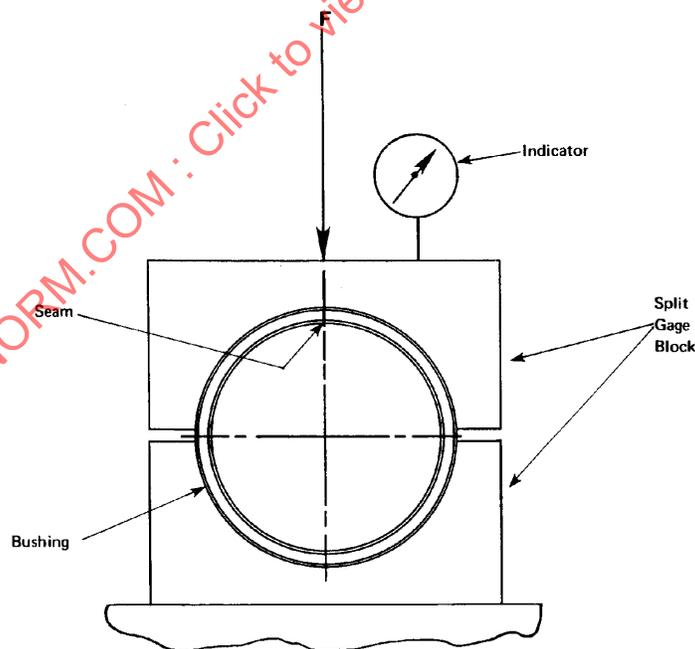

FIGURE 8—OD FIXTURE
3.14.1 SPLIT BLOCK METHOD—The outside diameter is measured in a split gage block with a load  $F$  applied to the block. (See Figure 8.)